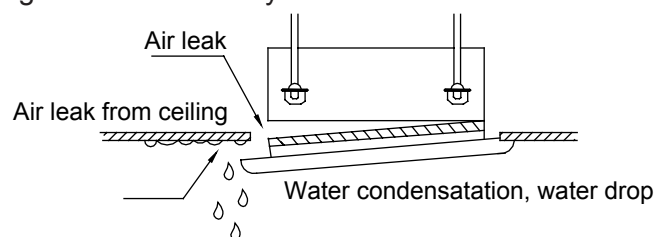

Fig. 12
- ① . Improper screwing of the screws may cause the troubles shown in Fig. 12.